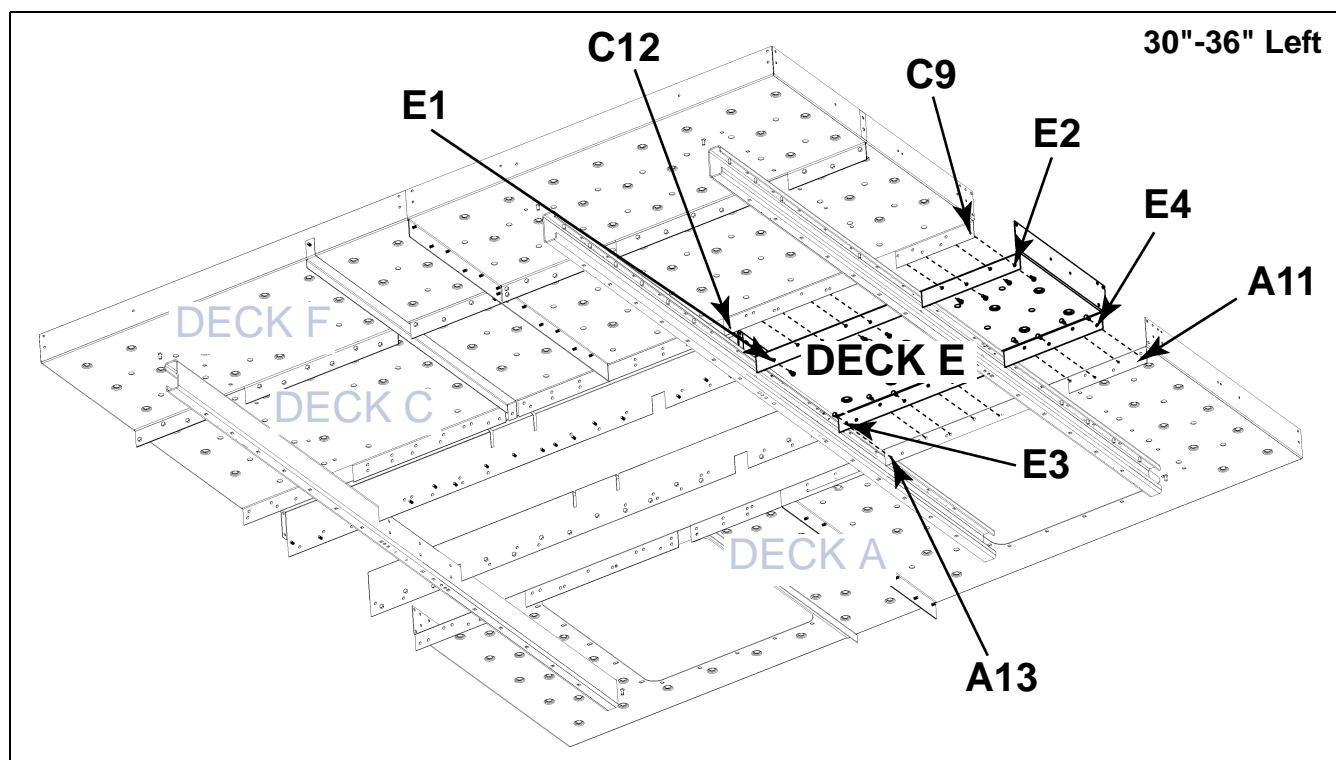

Figure 9P
1. Position Deck E between Deck A and Deck C. Note that Deck E will be connected to two (2) channels. (See Figure 9P on Page 76.)
4. Connect the Deck E kick plate flanges to toe boards and flanges of Deck A and Deck C using 3/8" x 3/4" bolts (S-7105) and 3/8" nuts (S-10028). (See Figure 9P on Page 76.)
5. Align and connect Deck E to Deck A and Deck C using 3/8" x 1" bolts (S-7469) with flange nuts (S-10028). (See Figure 9P on Page 76.)